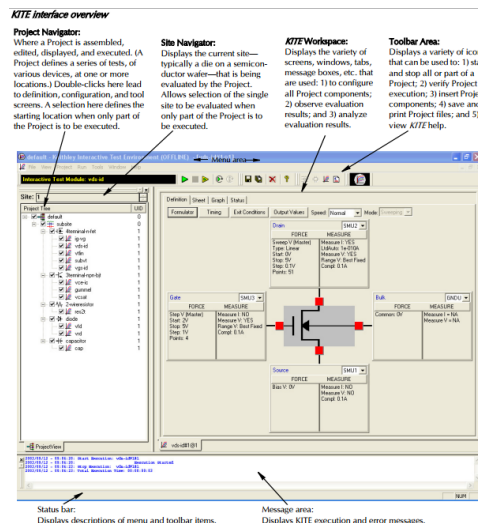

Figure 10.2.9 Keithley Interactive Test Environment (KITE) interface window.
5. Start KITE software. Figure 10.2.9 shows the interface window.